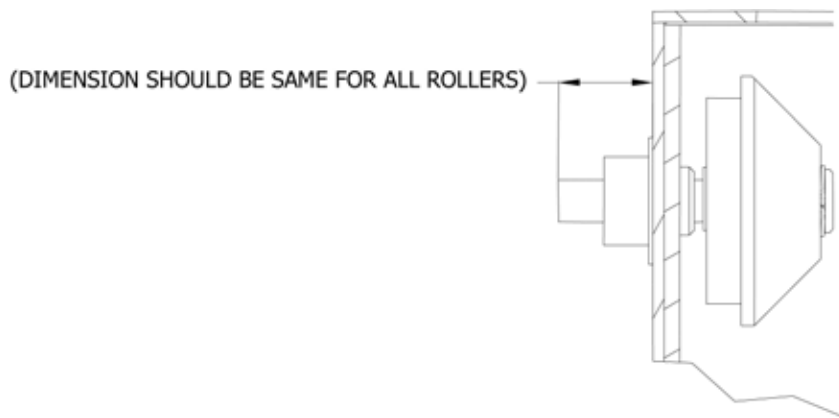

Figure 6
11. Adjust the top eight (8) tapered rollers by loosening the jamb nuts, and adjusting the threaded axles. Adjust the tapered rollers such that the threaded axles protrude the same distance from the frame. See Figure 6. There should be minimal play between the shell assembly and the tower after tightening. If too much play still exists, re-adjust all rollers the same amount. Tighten the jamb nuts once all rollers are adjusted. Confirm the shell assemblies roll freely around the tower.